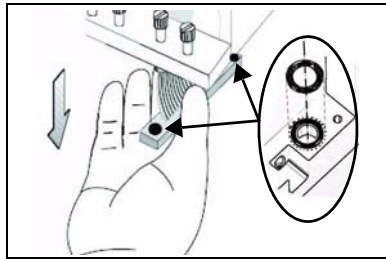

Figure 6-65: O-ring seals on the print head
14. Inspect the replacement head, and make sure that the O-ring seals are in place (see figure 6-65).